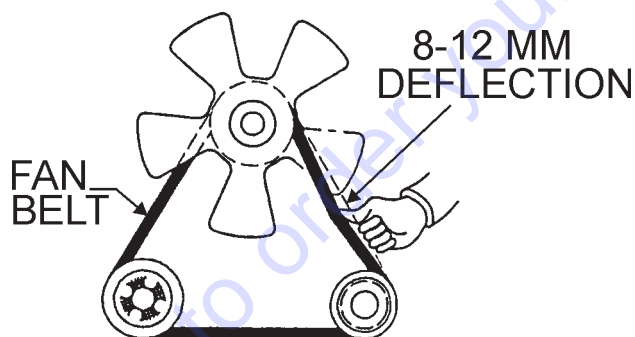

Figure 16. V-Belt Deflection
3. Check the V-belt tension (Figure 16) by pushing midway through the two pulleys. The V-belt deflection should be between .300 to .472 inches (8 to 12 mm).